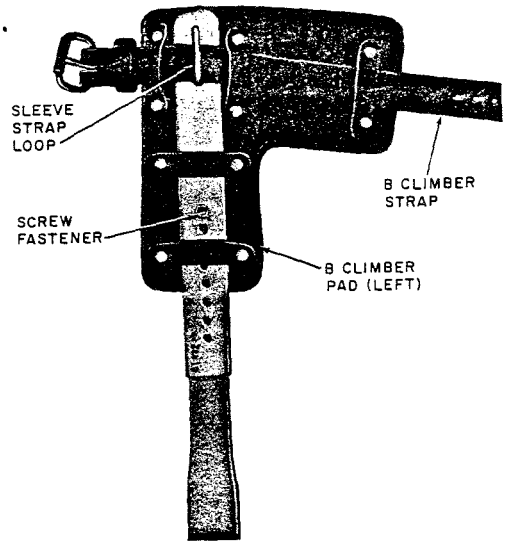

Fig. 7—B Climber Strap and Pad Installed on Climber
3.12 The B climber strap (Fig. 7) consists of a 22- or 26-inch strap with a buckle permanently attached. The B climber strap is used to hold the pad on the leg iron and to fasten both to the leg of the employee when the climber is worn.